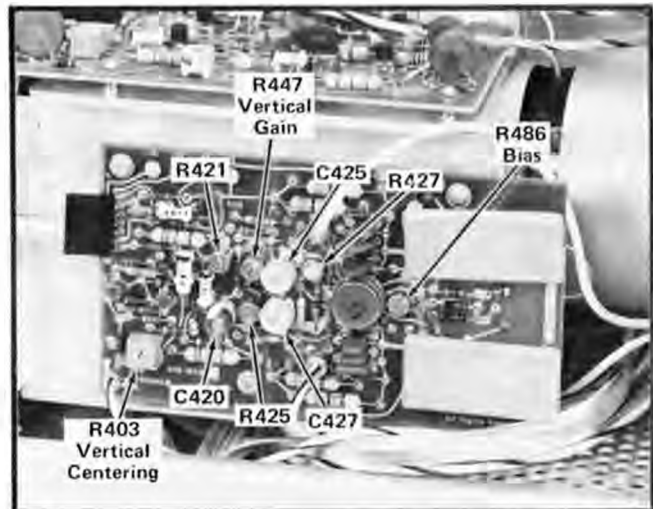

Fig. 3-3. Location of vertical system adjustments (Vertical Output board).
- d. ADJUST—Bias R486 for maximum gain. (See Fig. 3-3.)
- c. ADJUST—Vertical Centering adjustment R403 (see Fig. 3-3) to position the trace to the center horizontal line.
- d. ADJUST—Vertical Gain adjustment R447 (see Fig. 3-3) for exactly six divisions of deflection between the second and eighth traces.
d. ADJUST—High-frequency compensation as given in Table 3-2 for optimum square leading corner and flat top with minimum aberrations within limits given in part c. Location of adjustments is shown in Fig. 3-3. Use the low-capacitance screwdriver to adjust the variable capacitors. Repeat the complete adjustment procedure several times to obtain optimum adjustment.